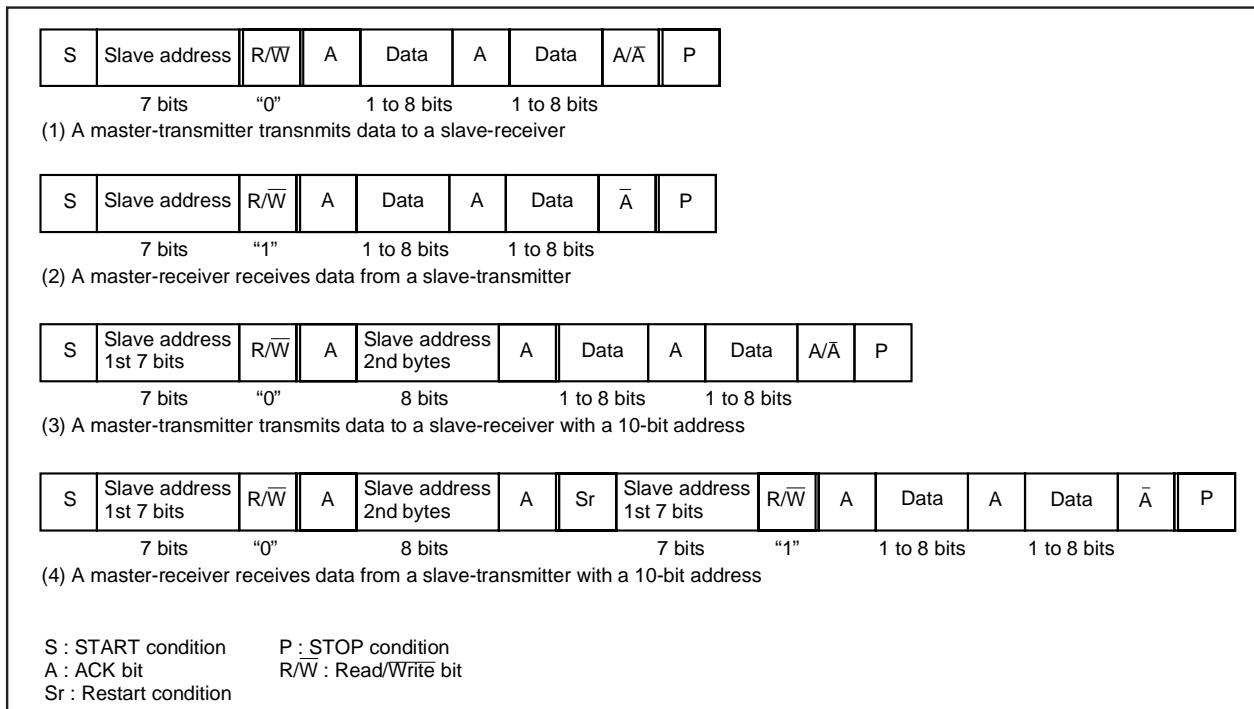

Fig. 46 Address data communication format
① 7-bit addressing format
To adapt the 7-bit addressing format, set the 10BIT SAD bit of the I²C control register (address 001516) to "0." The first 7-bit address data transmitted from the master is compared with the high-order 7-bit slave address stored in the I²C address register (address 001316). At the time of this comparison, address comparison of the RBW bit of the I²C address register (address 001316) is not performed. For the data transmission format when the 7-bit addressing format is selected, refer to Figure 46, (1) and (2).
② 10-bit addressing format
When the first-byte address data agree with the slave address, the AAS bit of the I²C status register (address 001416) is set to "1." After the second-byte address data is stored into the I²C data shift register (address 001216), perform an address comparison between the second-byte data and the slave address by software. When the address data of the 2 bytes agree with the slave address, set the RBW bit of the I²C address register (address 001316) to "1" by software. This processing can make the 7-bit slave address and R/\bar{W} data agree, which are received after a RESTART condition is detected, with the value of the I²C address register (address 001316). For the data transmission format when the 10-bit addressing format is selected, refer to Figure 46, (3) and (4).